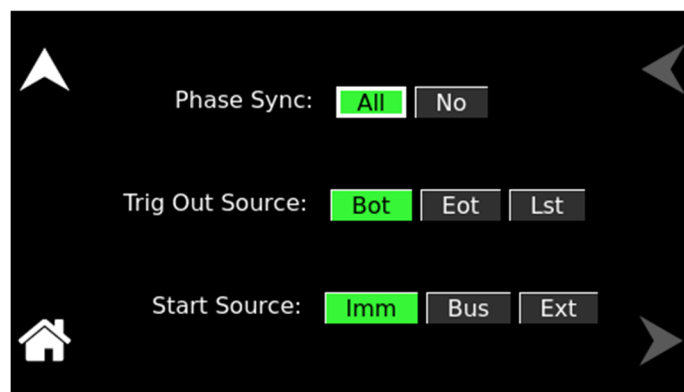

Figure 8-6: Settings Screen – Trigger Sub-Menu
2. Tap on the TRIGGER sub-menu; refer to Figure 8-6. Set the parameter values as follows: